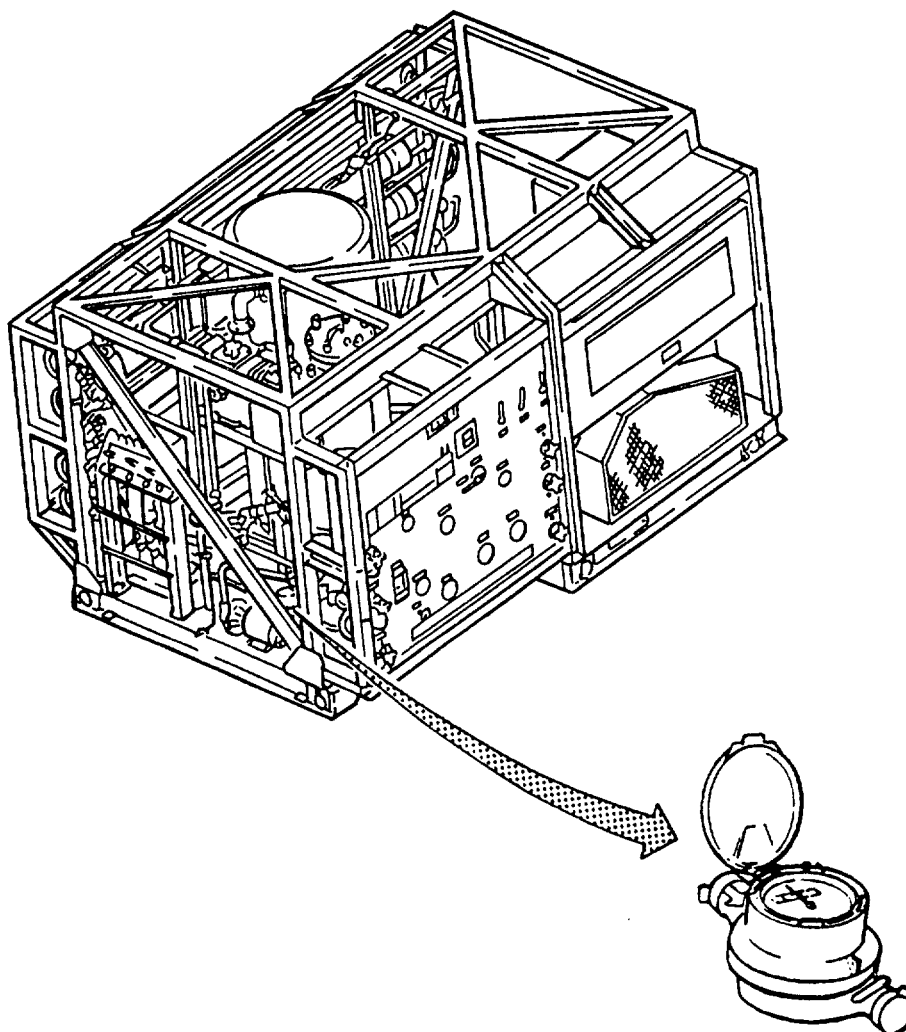

FIGURE 2-3. WATER METER
a. Product Water Totalizer. The product water totalizer is located on the floor of the frame directly behind the booster pump as shown in figure 2-3. This meter is used to indicate the total number of gallons, in tenths of a gallon, of product water the unit has produced. The number of gallons is read directly from the numerals in the small window and the tenths of gallons from the position of the needle on the dial face.
- (1) One revolution of dial equals 10 gallons of product water produced.